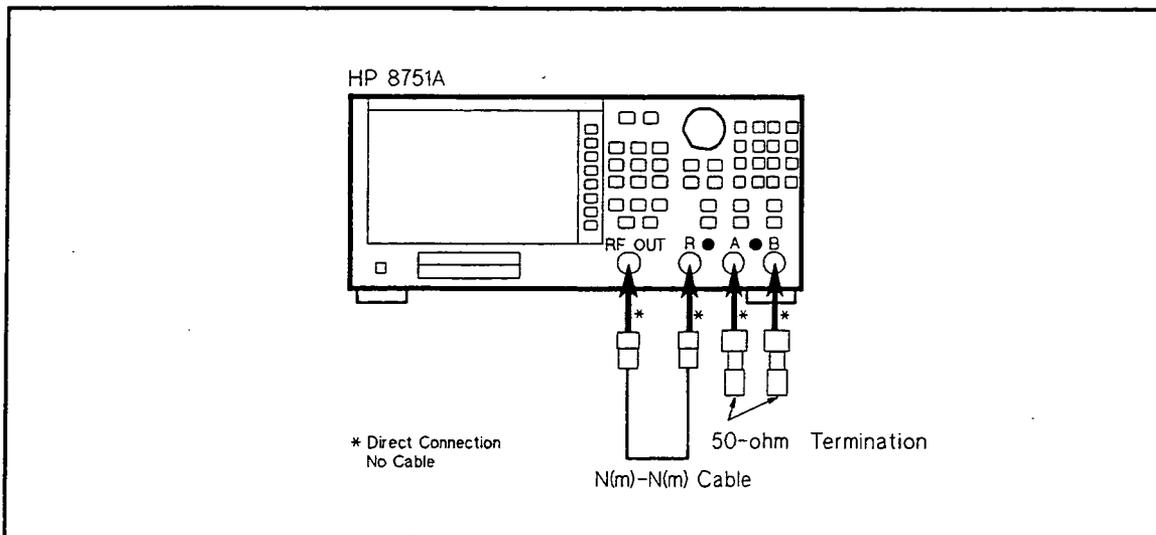

Figure 2-12. Crosstalk Test Setup 1
b. Connect an N(m)-N(m) Cable between HP 8751A RF OUT and Input-R, and connect a 50  $\Omega$  Termination to Input-A and Input-B as shown in Figure 2-12.